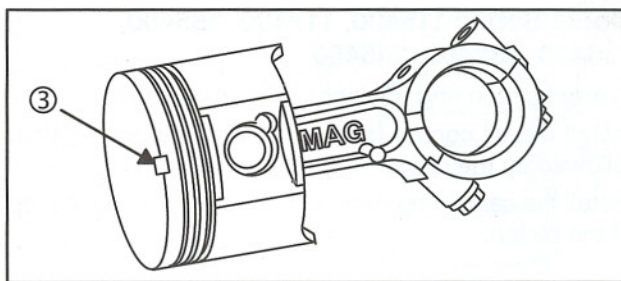

Fig. 10
Determine correct position of connecting rod relative to notch or arrow (1) on piston, Fig. 10.